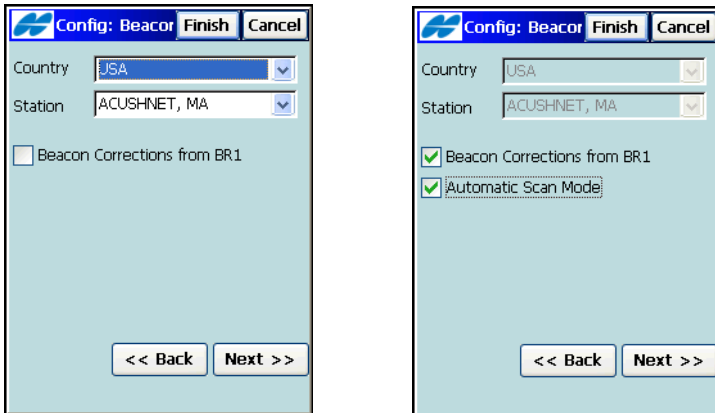

Figure 3-34. Config: Beacon
The **Config: Beacon** screen (Figure 3-34 on page 3-35) contains settings for a radio-beacon source of differential GPS corrections.
- *Beacon Corrections from BR-1* – check mark this box to enable the BR-1 receiver as a source of differential corrections for the rover. If selected, makes the *Automatic Scan Mode* available (Figure 3-34).